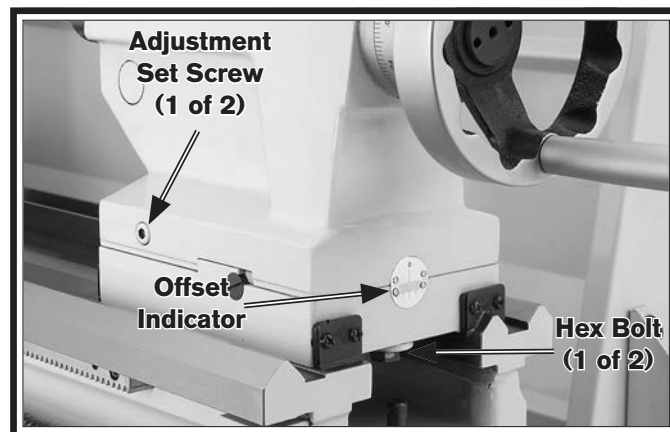

Figure 40. Tailstock offset controls.
1. Loosen the hex bolts underneath both ends of the tailstock to release the clamping pressure between the top and bottom castings (see **Figure 40**).